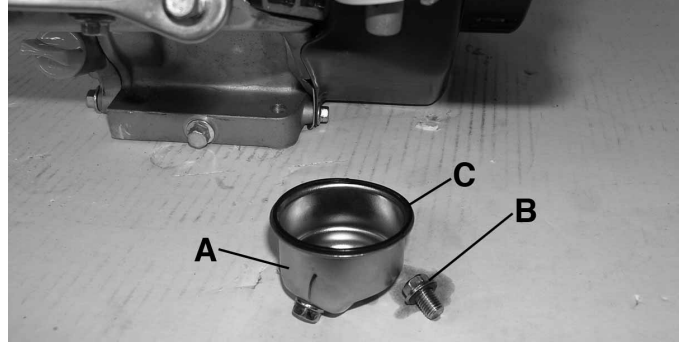

FIGURE 17
- 2) Remove centre deposit cup bolt (B) Fig.17 using a wrench. Place a pan under the deposit cup to catch any gasoline inside the carburetor.
- 3) Remove deposit cup (A) Fig.17 and o-ring (C), wash both in solvent.